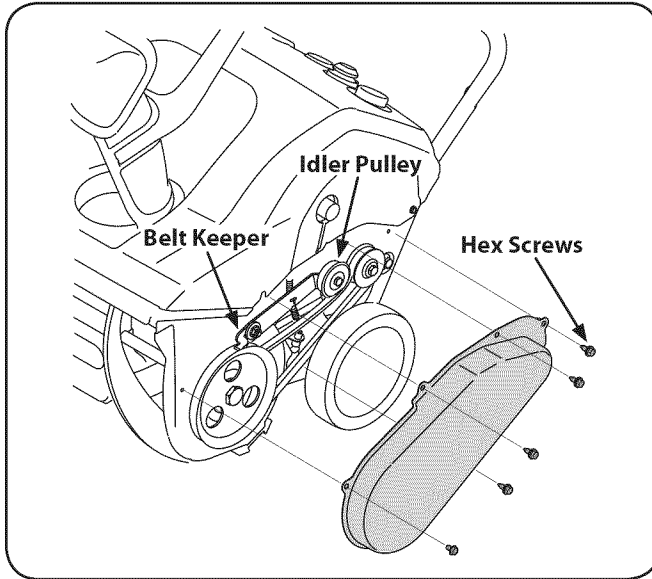

Figure 7-1
1. Remove the belt cover by removing the five hex screws that secure it to the frame. See Fig. 7-1.
**NOTE:** Push down on the idler pulley to release the belt from under the belt keeper. See Fig. 7-1.